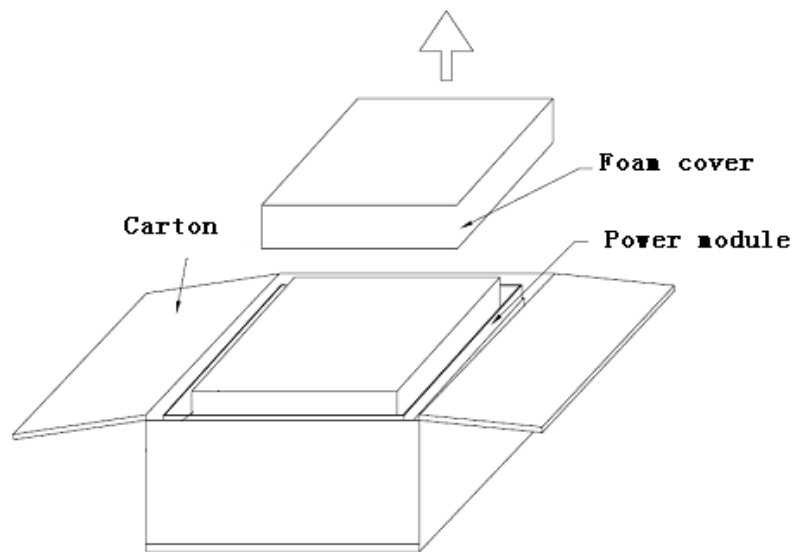

Fig.2-7 Remove the foam cover
4. Remove the foam cover (See Fig.2-7).